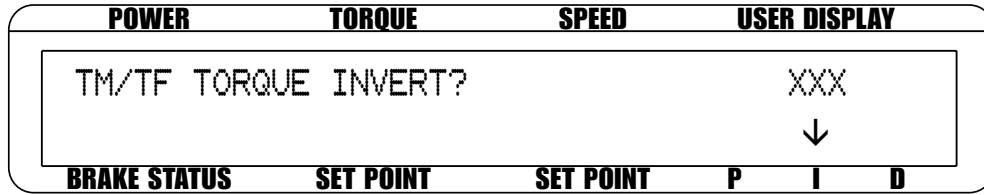

Figure 6-7 Torque Invert Flag Screen
1. See *Section 3.2.1 - Dynamometer Configuration*. When the TM/TF torque sensor is chosen, after the max torque screen, the TM/TF torque reading invert flag screen will be displayed as in *Figure 6-7 Torque Invert Flag Screen*.